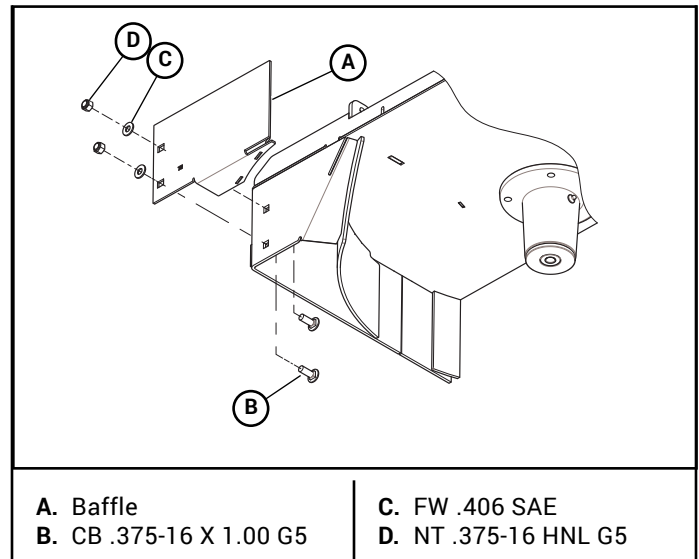

Figure 3-9
5. Attach the blower baffle to the deck. Figure 3-9